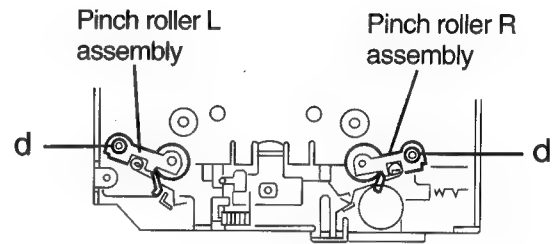

Fig. 5
(See fig 5)
■ **Removing the Pinch Roller Assembly (See Fig. 5,6)**